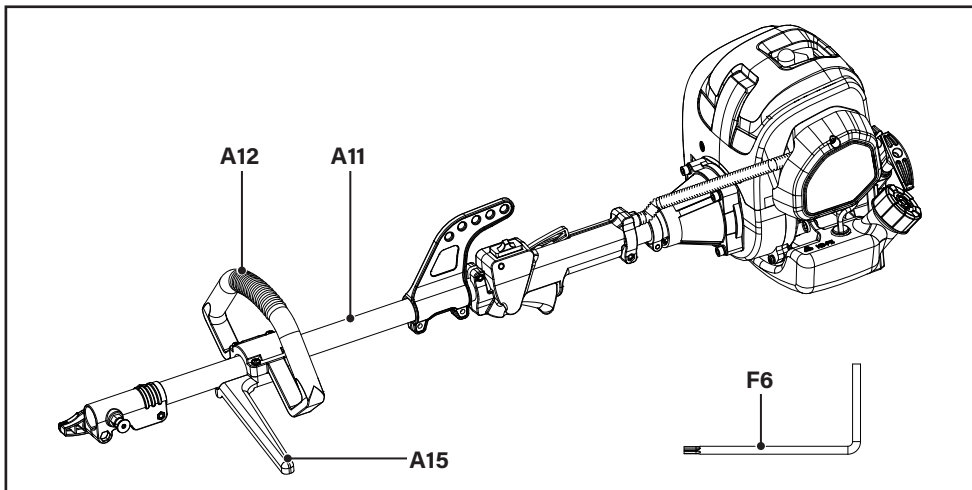

Fig. 1
5. Secure the front handle (A12) and the barrier bar (A15) with the 4 bolts using the multi-tool 1 (F6) (Fig. 1).